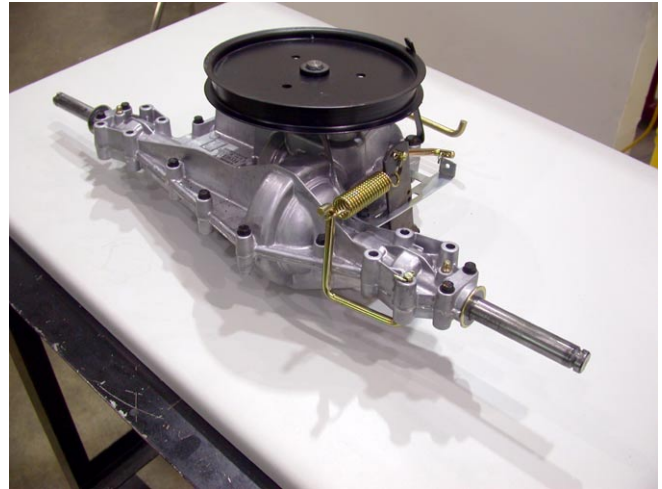

Figure 56
14.13. Remove the transmission from the unit for service. See Figure 56.